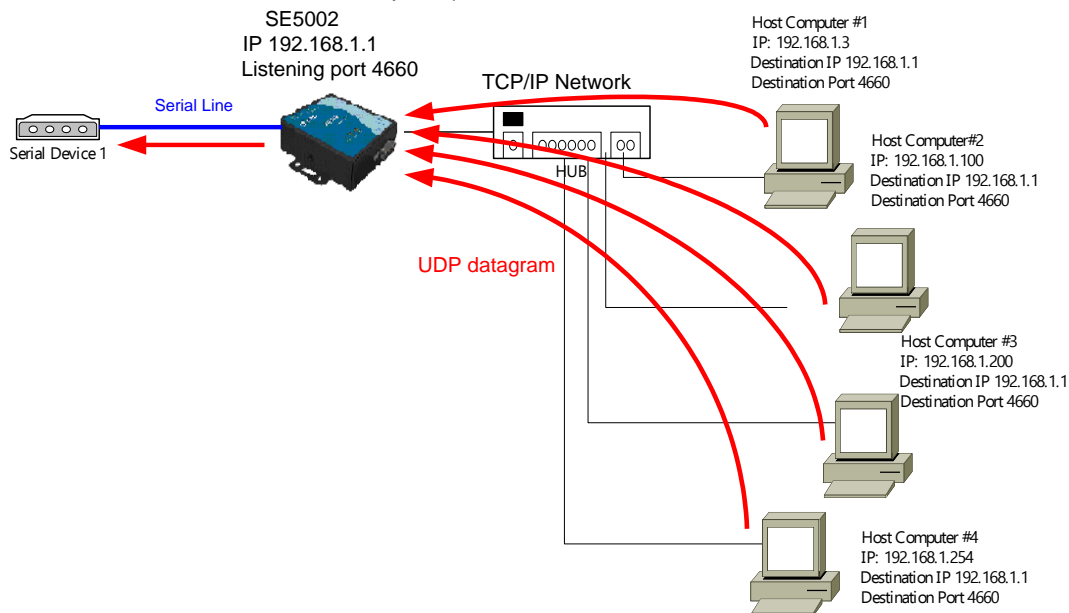

Fig. 32. Data Transmission in a UDP Slave(server) Mode
2. **Slave (Server) Mode** : To establish a connection using unicast or broadcast data from one or multiple host computer to a serial device.(Fig. 32)